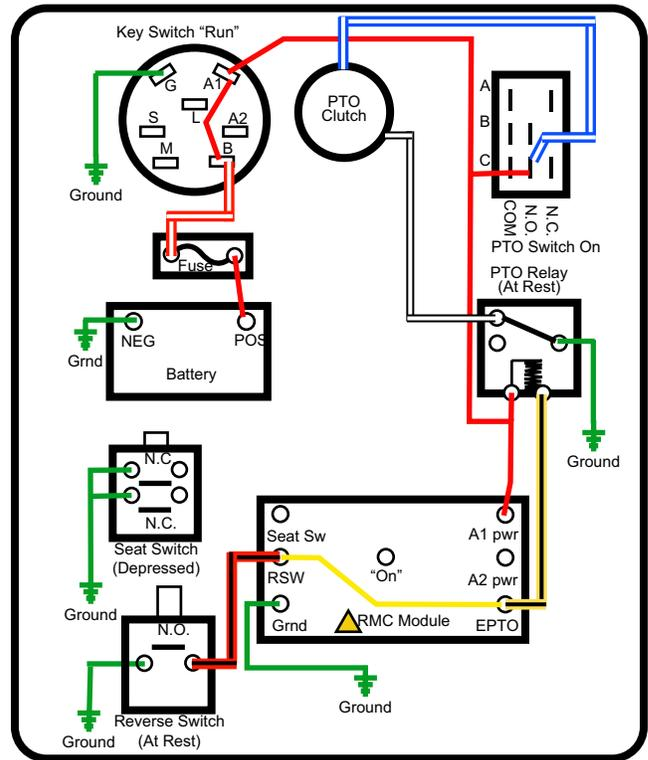

Figure 7.38
Basic Operation: See Figure 7.38.
1. The PTO clutch loses its ground when the PTO relay is energized. See Figure 7.38.